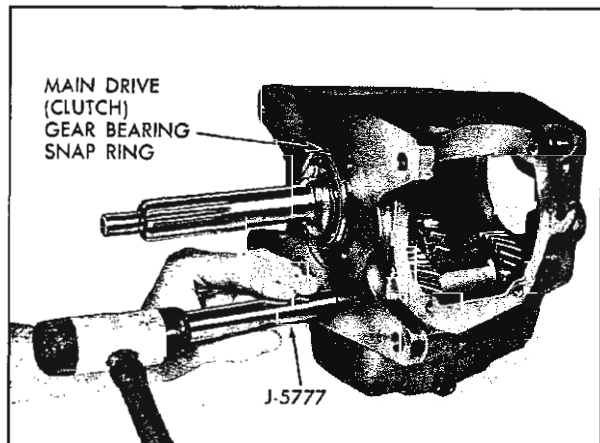

Fig. 7-18 Driving Countershaft Out of Transmission Case
10. Remove countershaft by tapping it from front to rear of case with a brass drift approximately 1/4 inch. Complete removal of countershaft, using loader J-5777 Fig. 7-18). Lower the countergear, with loader J-5777 still in place, to bottom of case.
11. Remove main drive (clutch) gear bearing snap ring (Fig. 7-18).